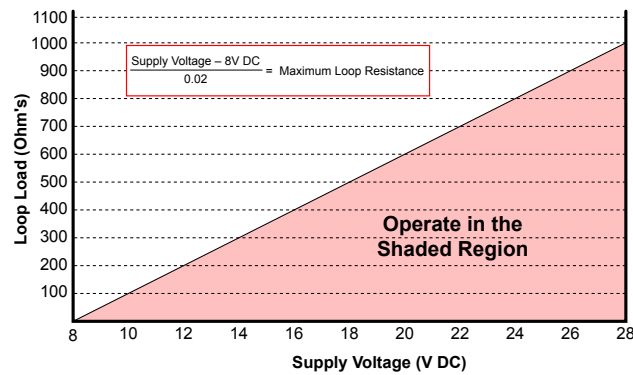

Figure 8: Supply voltage chart
The voltage provided by the receiver must be within the limits shown in Figure 8.
2. Find the total load (in ohms) on the left side of the chart in Figure 8 and follow that value horizontally until it intersects with the shaded area.